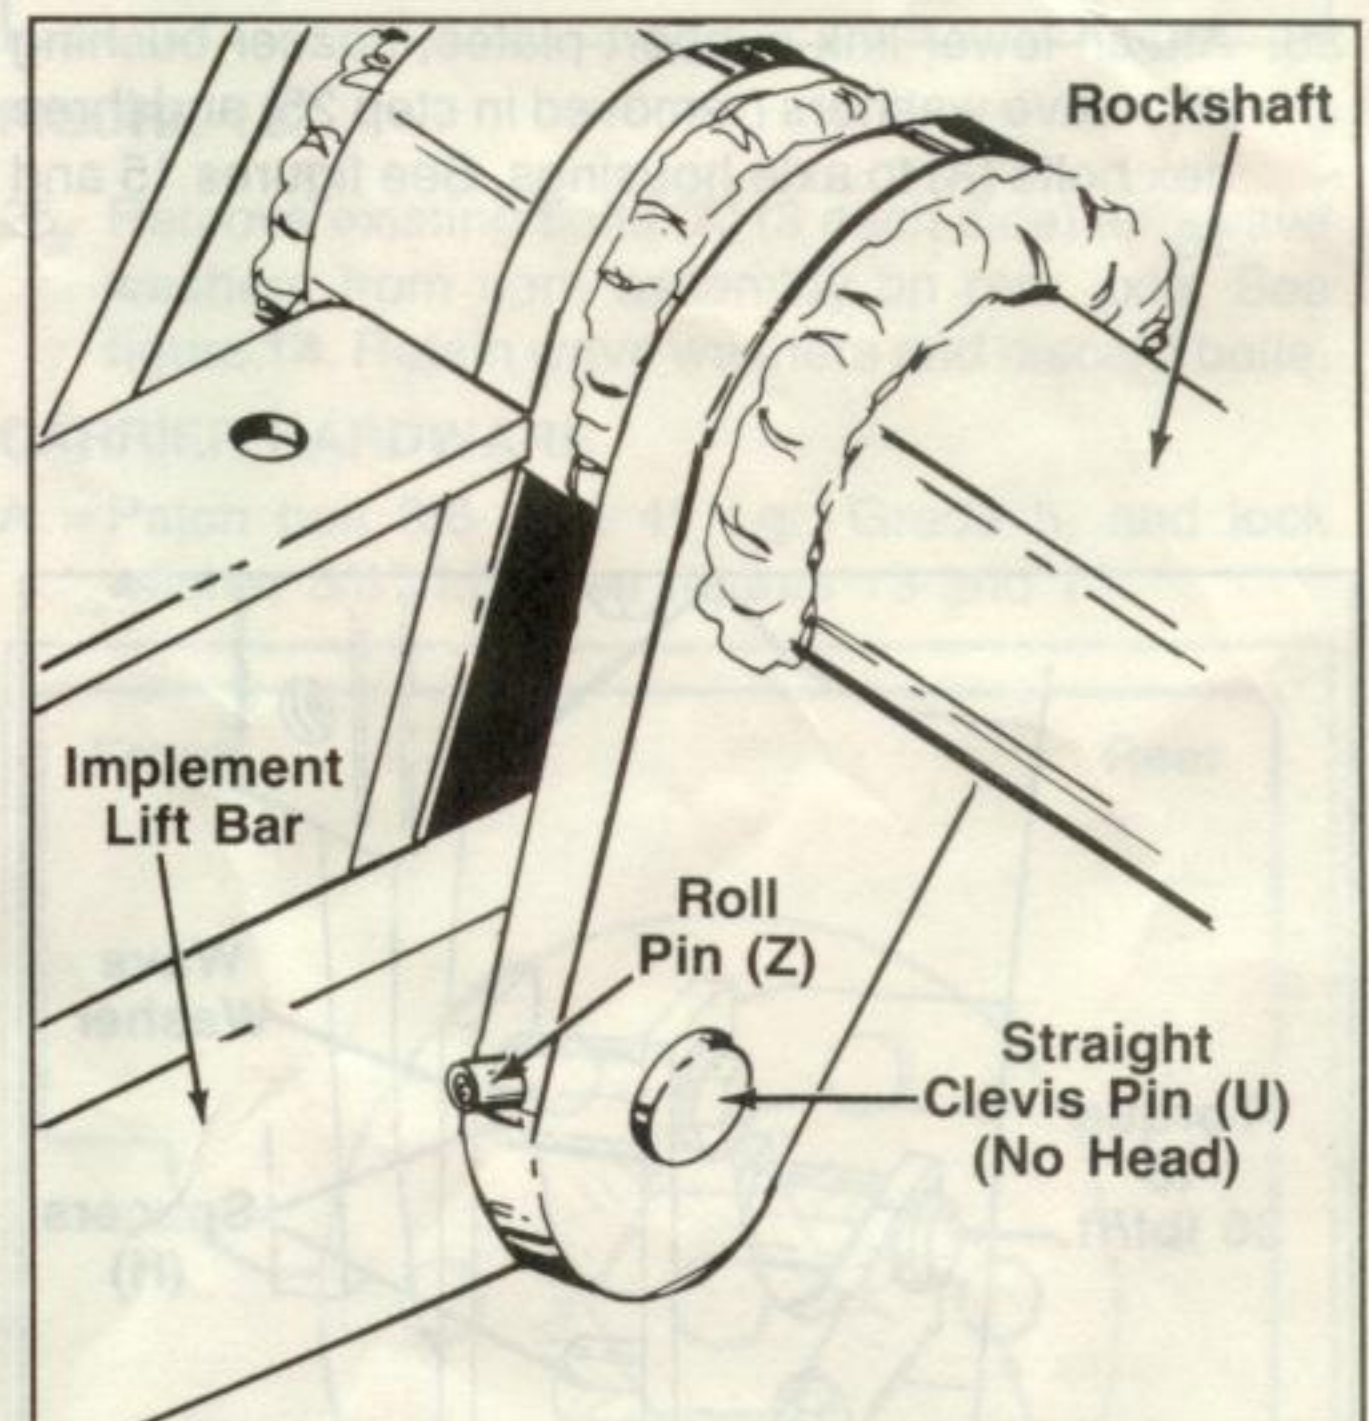

FIGURE 22.
31. Assemble the other end of implement lift bar to rockshaft with straight clevis pin (U) (no head) and roll pin (Z). See figure 22.